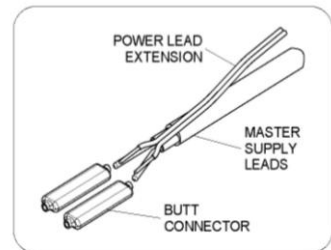

FIGURE 2
1. Connect 24VAC or 12VDC leads from power supply to flying leads of power lead extension (*included*) by crimping supplied Butt Connectors. [FIGURE 2]